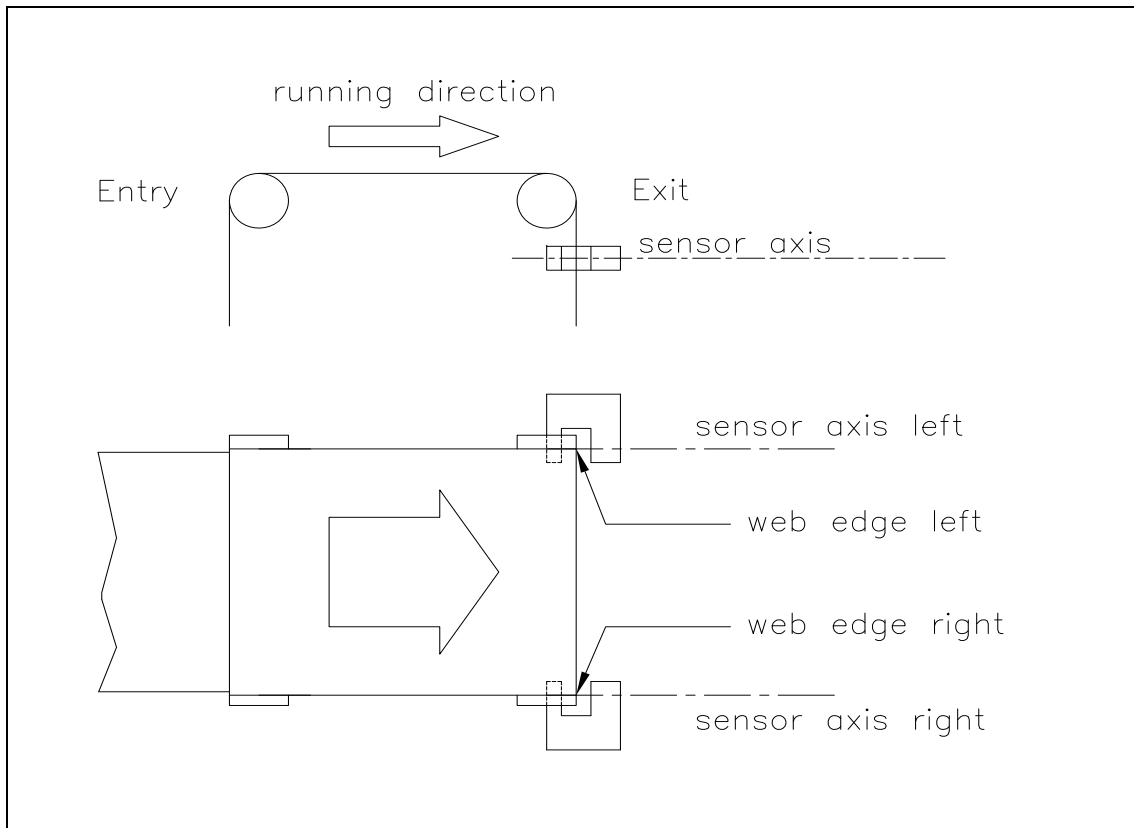

Fig. 3: Position of the sensors according to the web
Left and right are always seen in direction of the running web (see Fig. 3).
*Make sure that the sensor(s) are connected properly to the electronic unit by means of the delivered cables. For left / right orientation please refer to Fig. 3. If the connections are crossed over, malfunction can be the result.*